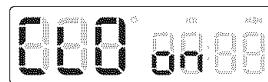

Fig. 1
1. Press and continue to press USER PREF until you reach the pre-set clock display mode -Fig. 1-.